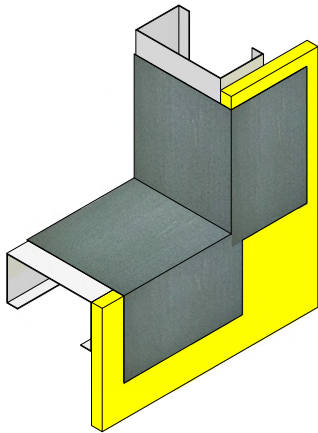

Figure 5
1. Mix Senershield-R/-RS/-VB per the product bulletin instructions. Apply a generous receiving coat to the corners of openings and out onto the substrate. (See Figure 5)